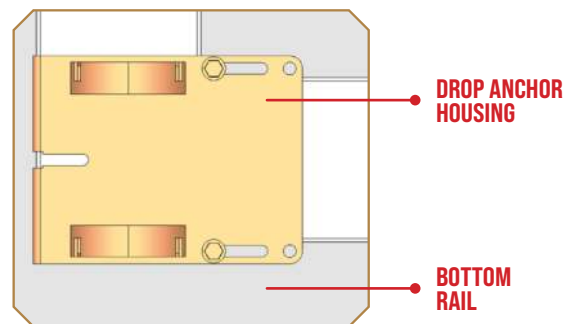

Figure 2
1. Clamp the drop anchor housings onto the gate ends using two of the three fastener sets (sets include 2 barrel nuts and four  $\frac{3}{4}$ " bolts). The nuts fit closely to the top and bottom surfaces of the bottom rail (Figure 2).